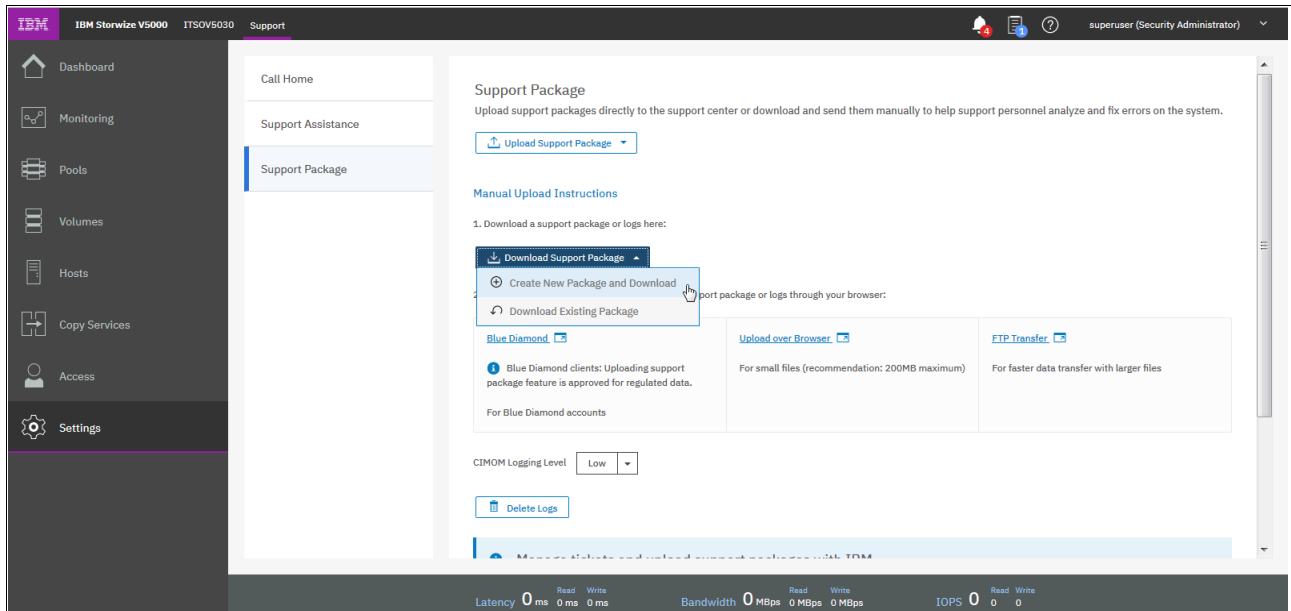

Figure 12-124 Download Support Package
3. In the Manual Upload Instructions section, click **Download Support Package** and select **Create New Package and Download** (see Figure 12-124).